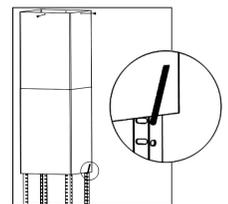

fig.10
4. If your cooker hood is going to be used in extraction mode, then you should connect the ducting hose to the ceiling adapter at this point. Fix the upper chimney section to the hanging plate, using the 4 x self-tapping screws. Slide the lower chimney section onto the angle bars and raise it until it sits just below the upper chimney section (see fig.10)